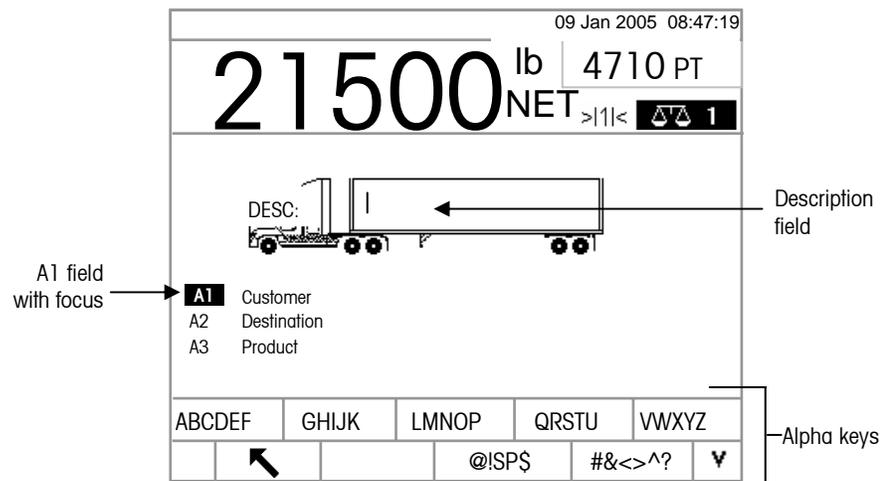

Figure 2-12: Transient Weighing ID Prompt
2. A prompt displays with a cursor in the description field. The softkeys and application keys become alpha keys (see Figure 2-12).